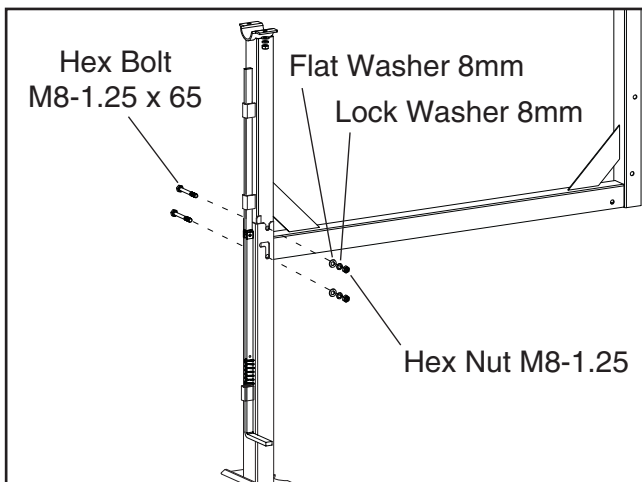

Figure 5. Support leg installation.
2. Attach the support leg to the frame with two M8-1.25 x 65 hex bolts on one side and two 8mm flat washers, lock washers, and hex nuts on the other side (see **Figure 5**).